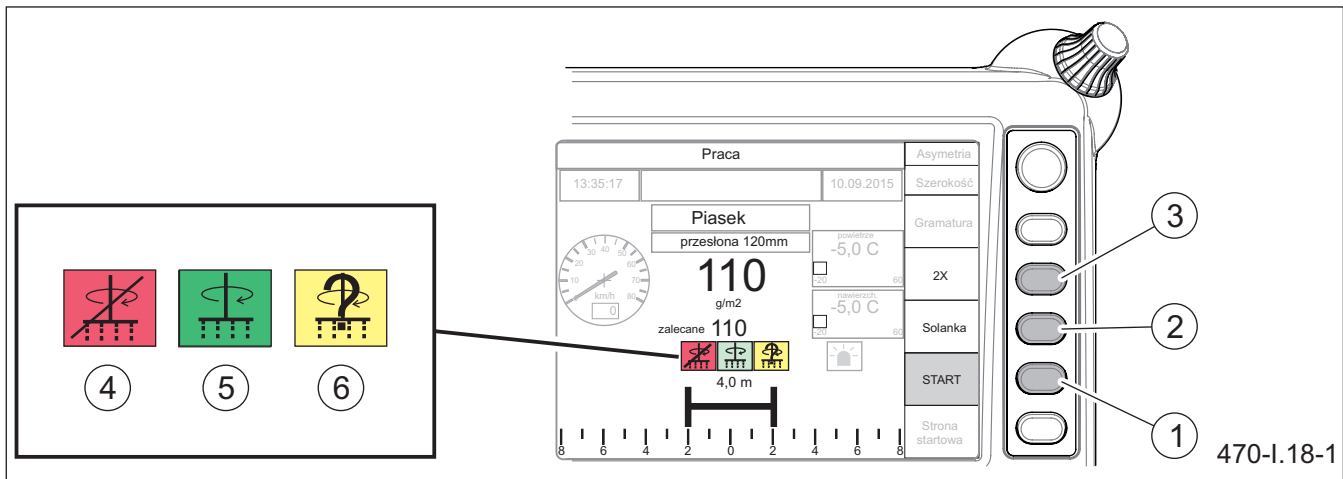

Figure 5.19 Start spreading
- Move to field (B) by means of push-button (1) „Selection” and select the type of material to be spread. By means of „Change” push-button, select the type of material to be spread that is currently in the tank.
- Press the button (3), turn on warning lamp (6) at the rear of the machine and lamp (7) near the spreading disc.
- On control panel “Operation” page (Figure 5.19), press button (1) to activate spreading; the “Start” function will be highlighted.
control panel (Figure 5.19). Brine spraying is switched on and off by means of push-button (2) “Brine” (not active for sand).